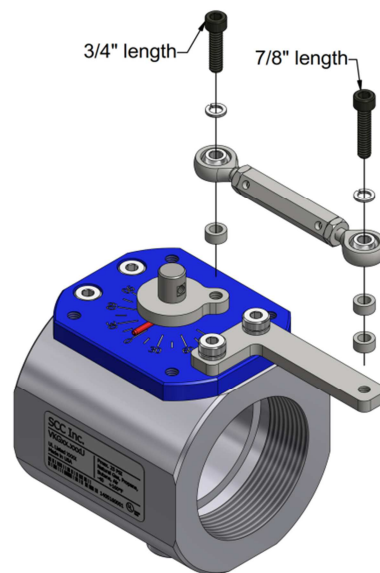

Figure 5: Turnbuckle Assembly Installation
4. Install the turnbuckle assembly onto the valve using a 5/32" hex key, the #10-24 x 3/4" socket cap screw, the #10-24 x 7/8" socket cap screw, the (3) #10 spacers, and the (2) #10 split lock washers as shown below in Figure 5. The 3/4" length socket cap screw threads into the crank arm and uses (1) #10 spacer. The 7/8" length socket cap screw threads into the mounting bracket and uses (2) #10 spacers. The valve shaft may need to be turned slightly so that the hole in the crank arm lines up with the hole in one of the rod ends on the turnbuckle assembly.